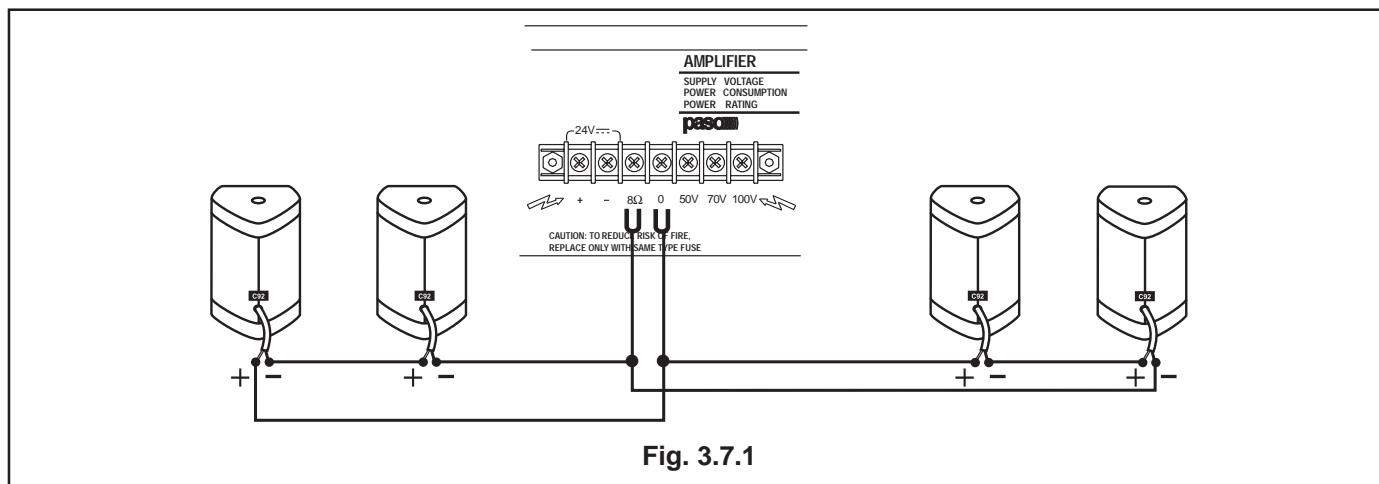

Fig. 3.7.1
A low impedance connection may be used in applications with few speakers where the connecting cables are not excessively long. The line must be connected to "0" and the "8 ohm" terminals on terminal block (10). The total impedance supplied by the speakers connections (series, parallel or mixed) must not be less than 8 ohm. Figure 3.7.1. is an example of how to connect four C92 speakers (8 ohms each) with series/parallel connections to an AX3060 amplifier. To reduce the loss of signal on the line connecting the amplifier and the speakers, we recommend using cables with cross sections of no less than